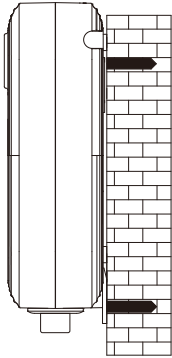

Figure 9
Step 5: Next, use another nail to secure the appliance in the remaining hole, ensuring the entire appliance is firmly installed (**Figure 9**)(**Figure 10**).